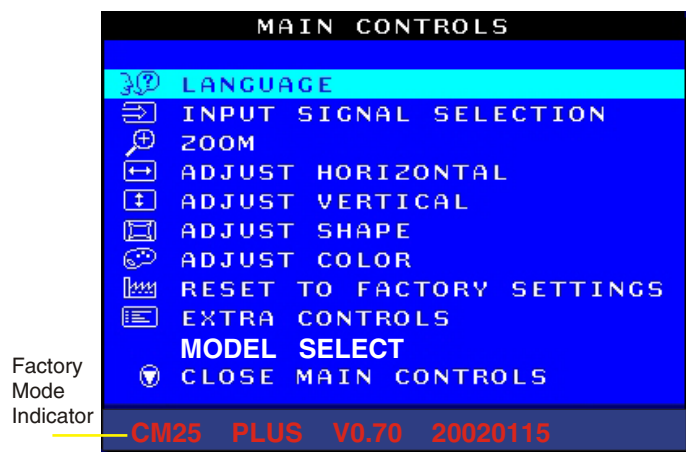

Fig. 2.1
- Press " " and " " simultaneously on the front control panel, then press " ", wait till the OSD menu with characters CM25 PLUS V0.70 20020115 (below OSD menu) comes on the screen of monitor as shown in Fig. 2.1.